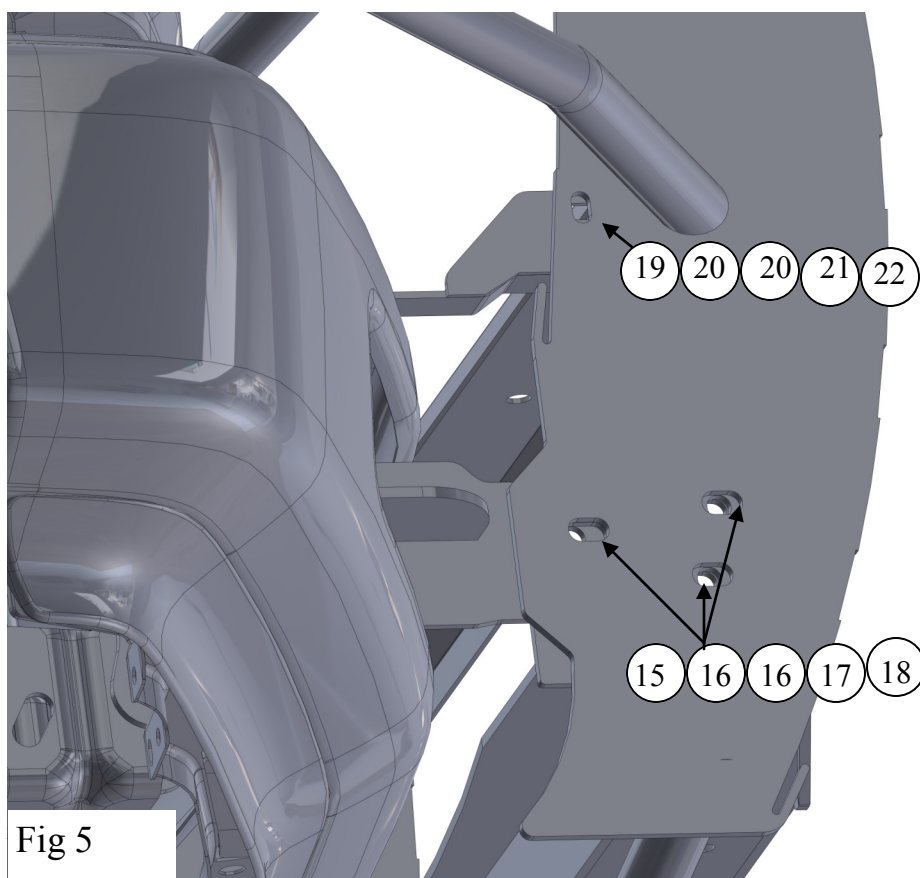

Fig 5
8. With assistance, place the grille guard on the outside of the winch tray attach the grille guard to winch tray and winch tray mounting bracket using (6) M12 hex head bolts (stainless), (12) M12 flat washers (stainless), (6) M12 lock washers (stainless), and (6) M12 hex nuts. Attach the grille guard to the upper support brackets using (2) M10 hex head bolts (stainless), (4) M10 flat washers (stainless), (4) M10 lock washers (stainless), and (4) M10 hex nuts (stainless) (FIG 5)